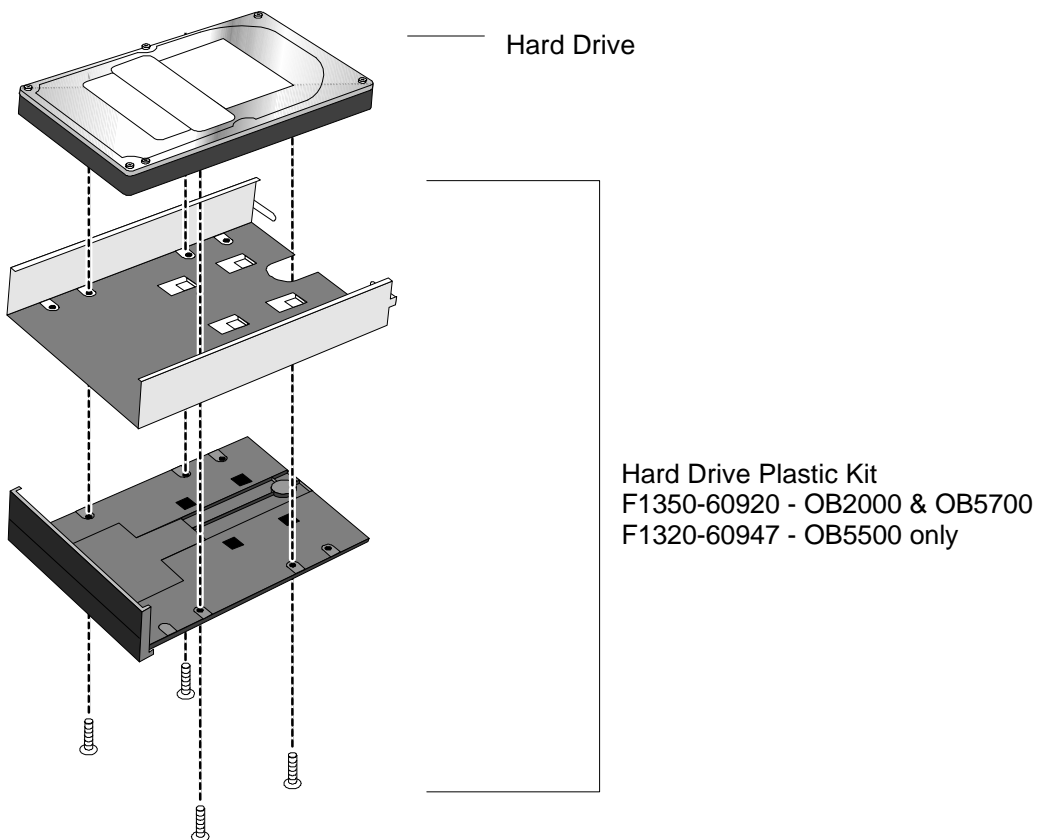

Figure 23 - Removing the Hard Drive Plastic Kit
6. Now, the hard drive can be slid out of the case. See Figure 23.